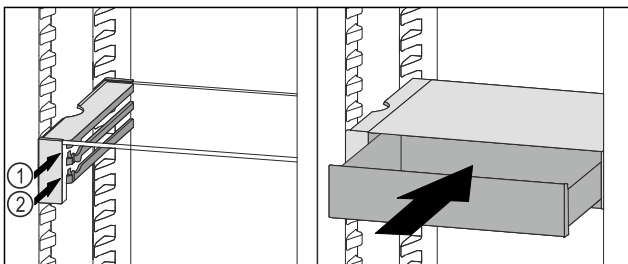

Fig. 107
- ▶ Place the VarioSafe drawer behind the stoppers on desired rib Fig. 107 (1) or Fig. 107 (2).